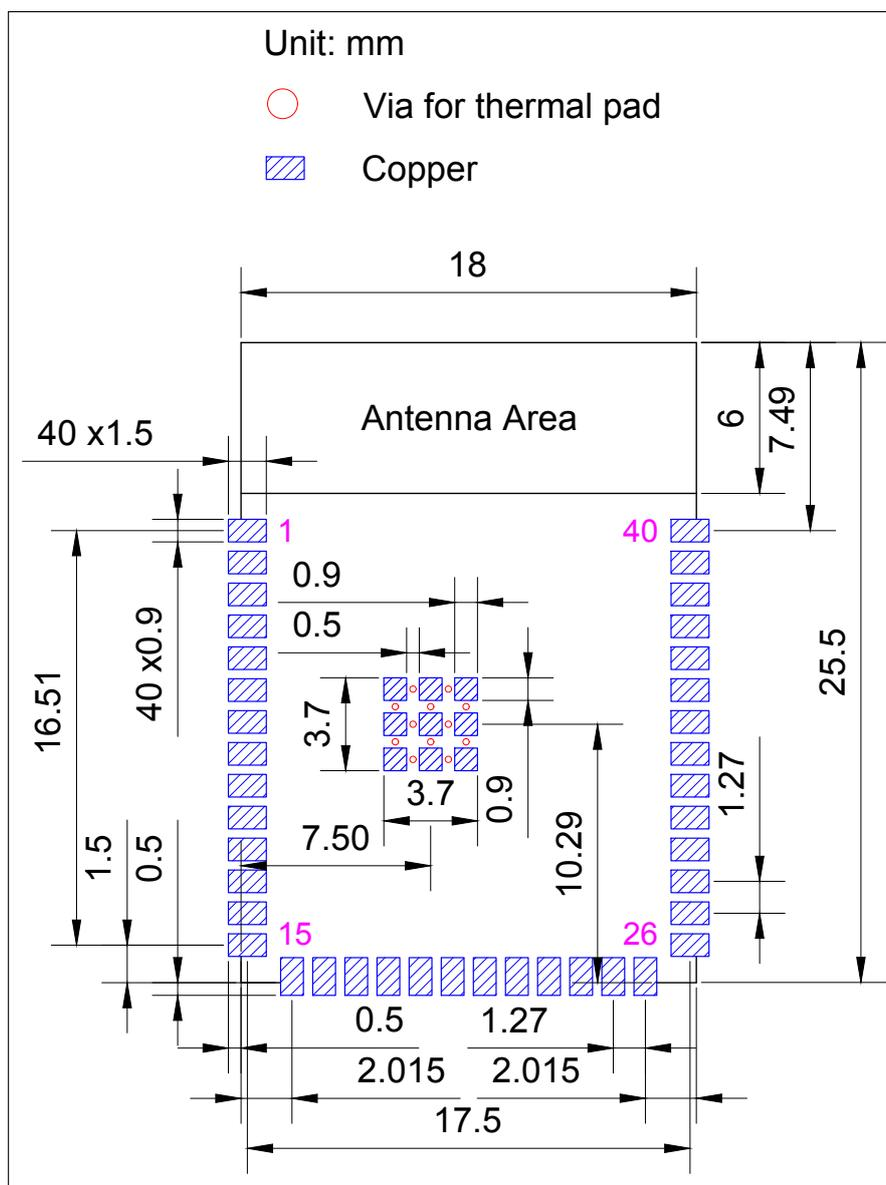

Figure 10: ESP32-S3-WROOM-1 Recommended PCB Land Pattern
- Figures for recommended PCB land patterns with all the dimensions needed for PCB design. See Figure 10 *ESP32-S3-WROOM-1 Recommended PCB Land Pattern* and Figure 11 *ESP32-S3-WROOM-1U Recommended PCB Land Pattern*.
- Source files of recommended PCB land patterns to measure dimensions not covered in Figure 10 and Figure 11. You can view the source files for ESP32-S3-WROOM-1 and ESP32-S3-WROOM-1U with Autodesk Viewer.